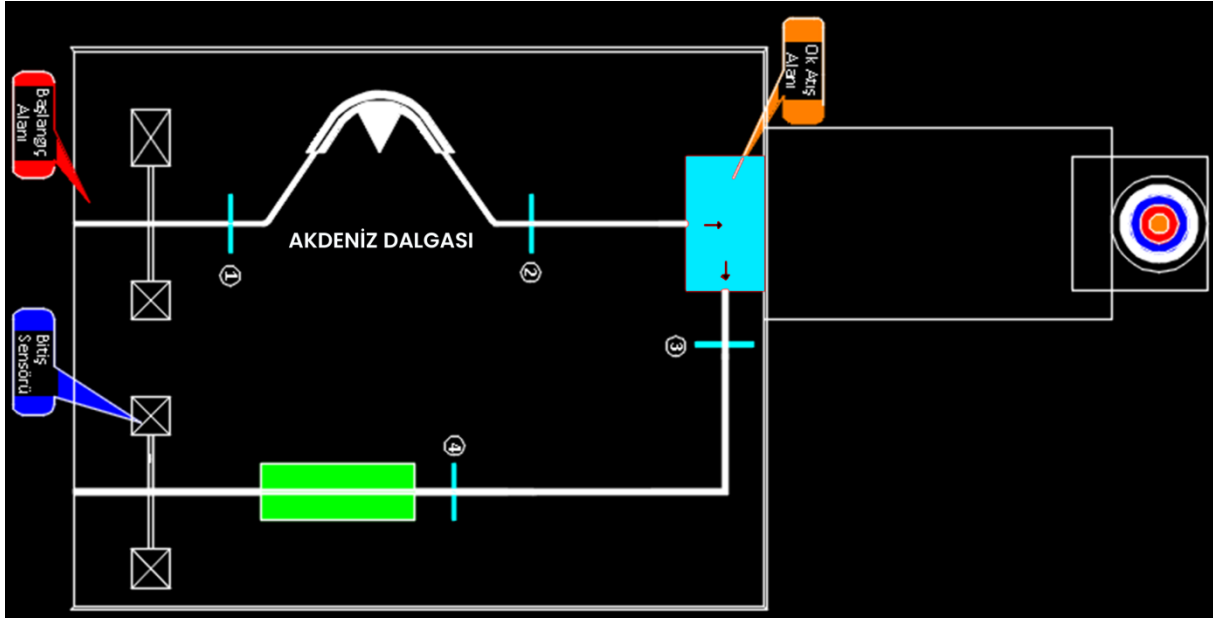

Figure 1. Elimination track
The dimensions of the arrow to be given to the competitor by the jury at the start of the competition are given in Figure 1 below. Competitors will construct an arrow-firing mechanism capable of shooting an arrow of these dimensions at a scored target board at a specific distance and height. This arrow-firing mechanism, constructed as desired, will be mounted on the robot and will be of a size that can pass through the start and finish gates.
- In the elimination round, the robot will reach the exit gate by completing the following tasks in sequence after the start: "Mediterranean Wave", Turquoise Blue area and arrow shooting, 90-degree turn, bridge (green area) climbing. (Figure 1)